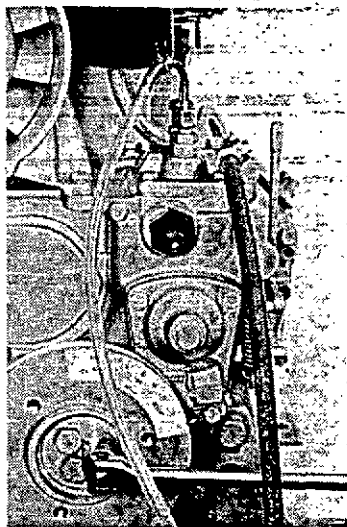

Figure 9
12. Pump the handle on the nozzle tester until bubble-free fuel emerges from the drip tube. See Figure 9.